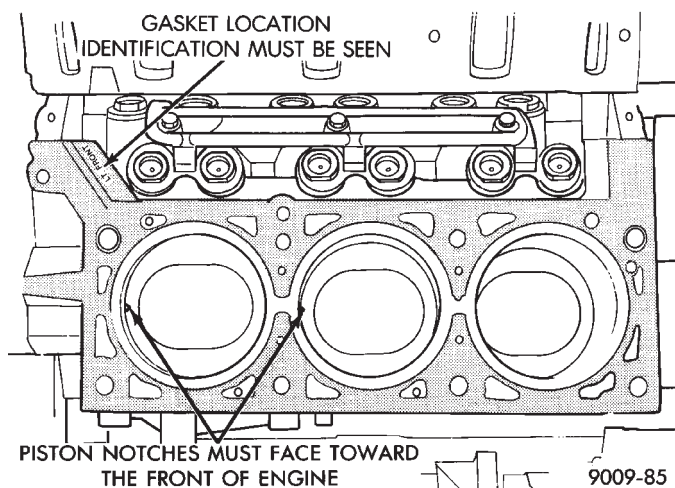

Fig. 67 Piston I.D. Notches
(6) Tap the piston down in cylinder bore, using a hammer handle. At the same time, guide connecting rod into position on connecting rod journal.
(7) The notch or groove on top of piston must be pointing toward front of engine (Fig. 67).
(8) Install rod caps. Install nuts on cleaned and oiled rod bolts and tighten nuts to 54 N·m (40 ft. lbs.) Plus 1/4 turn.